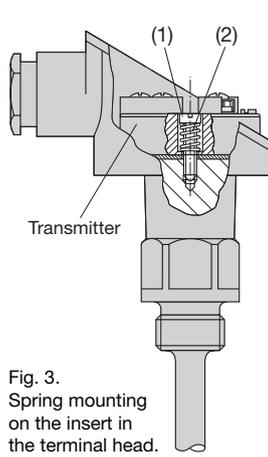

Fig. 3. Spring mounting on the insert in the terminal head.
two chesse-headed screws (1) and two springs (2) (see Fig. 3). Connect the leads acc. to section "7. Electrical connections".